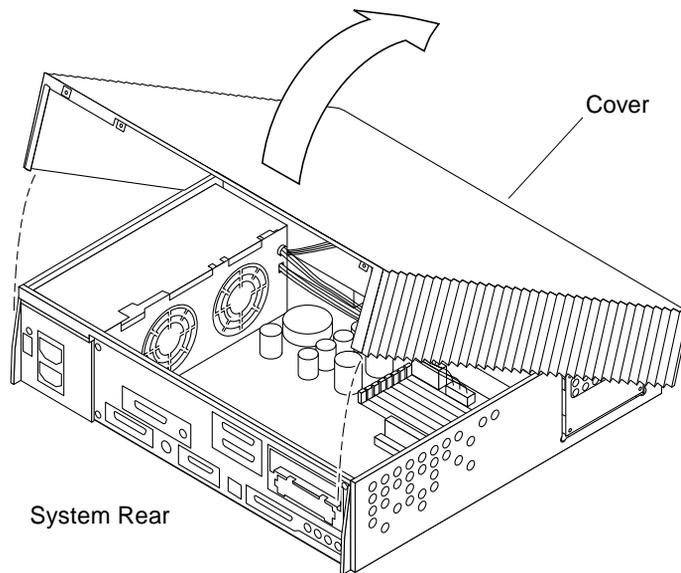

FIGURE 2-3 Removing the Cover
3. Grasp the sides of the cover and lift up the back of the cover (FIGURE 2-3). After the cover clears the back panel, push the cover away from the front panel.